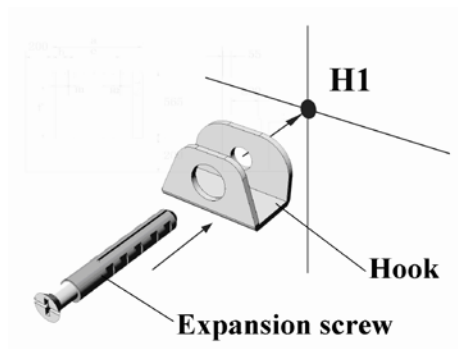

Figure 3
- Fix two hooks in the wall at positions H1 and H2 with expansion screws ( figure 3).